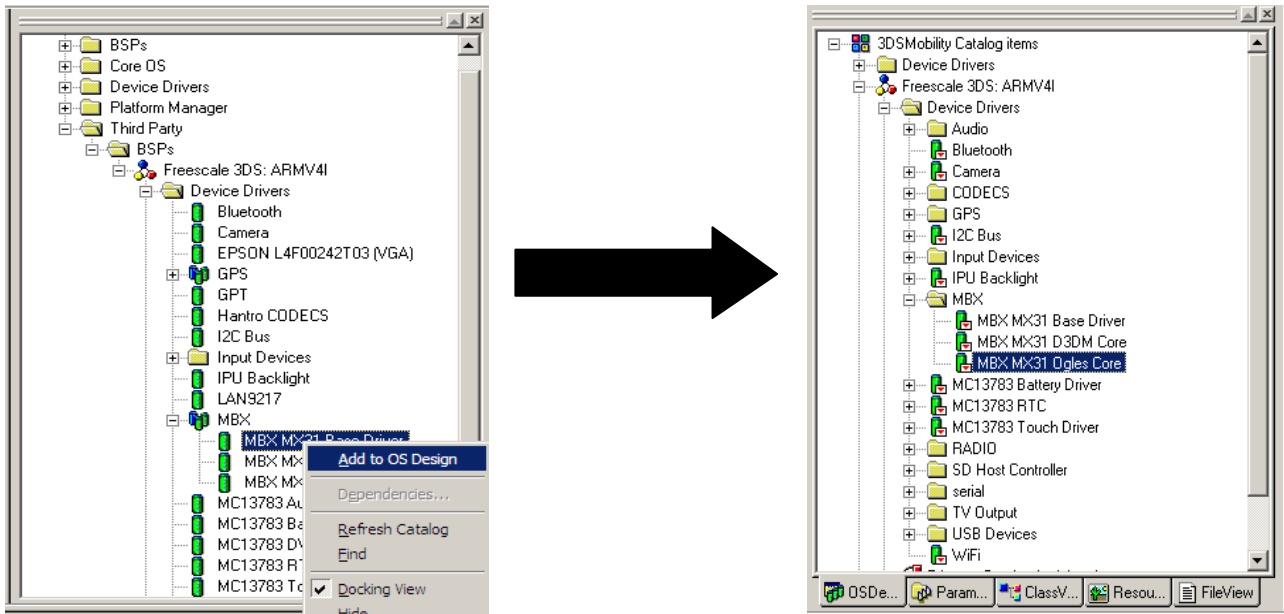

Figure 2. Catalog Items
1. Open Third Party > BSP > Freescale 3DS:ARM4I > Device Drivers > MBX in the WinCE catalog, and add all the catalog items in the MBX branch to the OS Design, as shown in Figure 2.